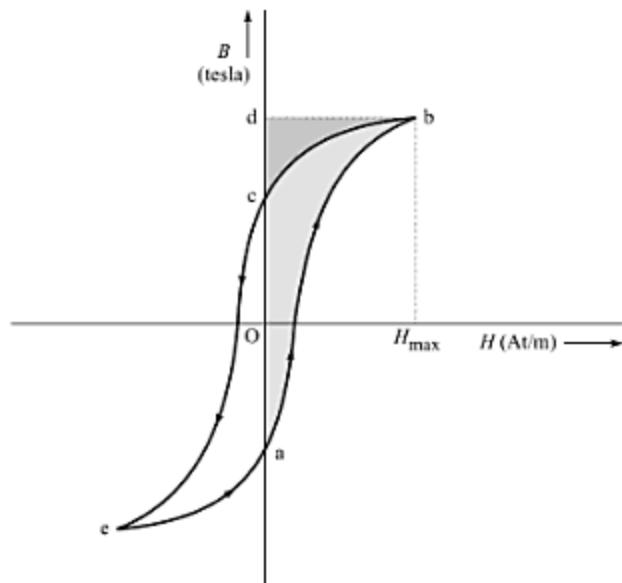

Fig. 13.6 Hysteresis loop and energy relationship per half-cycle.
**(i) Hysteresis Loss** When alternating current flows through the windings, the core material undergoes cyclic process of magnetisation and demagnetisation. It is found that there is a tendency of the flux density  $B$  to *lag behind* the field strength  $H$ . This tendency is called *hysteresis*\*. The effect of this phenomenon on the core material can be best understood from the  $B$ - $H$  plot shown in Fig. 13.6.